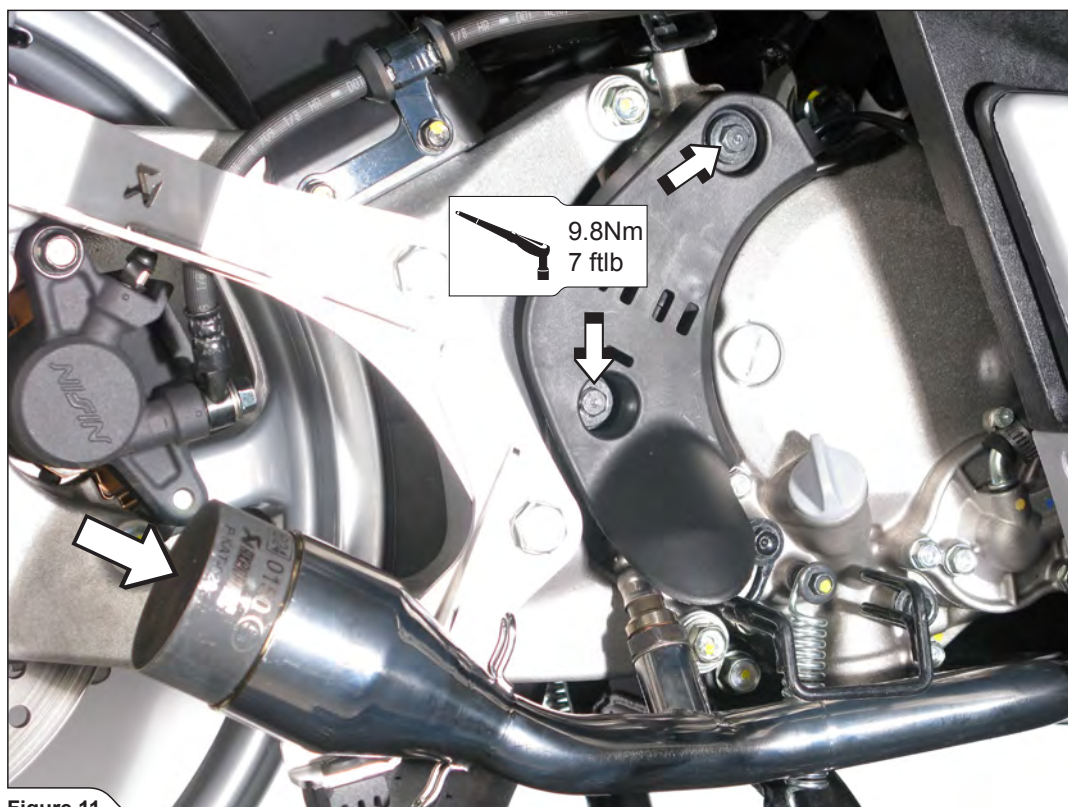

Figure 11
5. Attach the lambda sensor's cover and correctly insert the catalytic converter into the header (Figure 11).